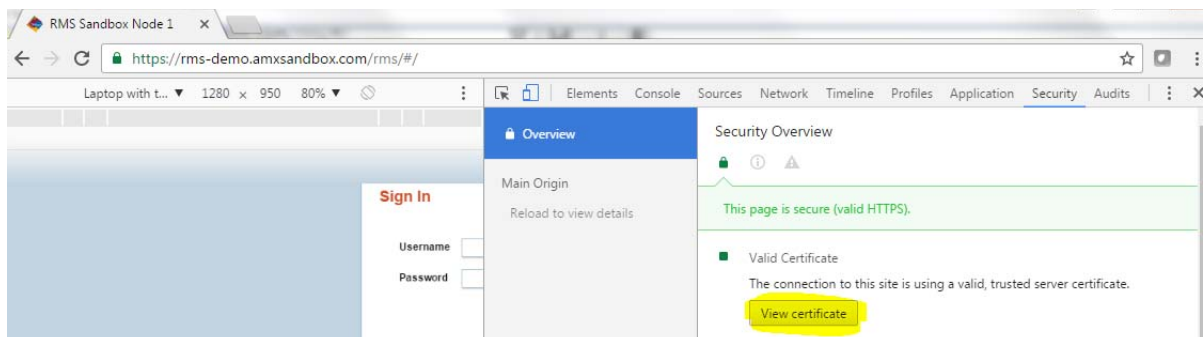

FIG. 461 View Certificate button
3. Click **View Certificate** (FIG. 461):